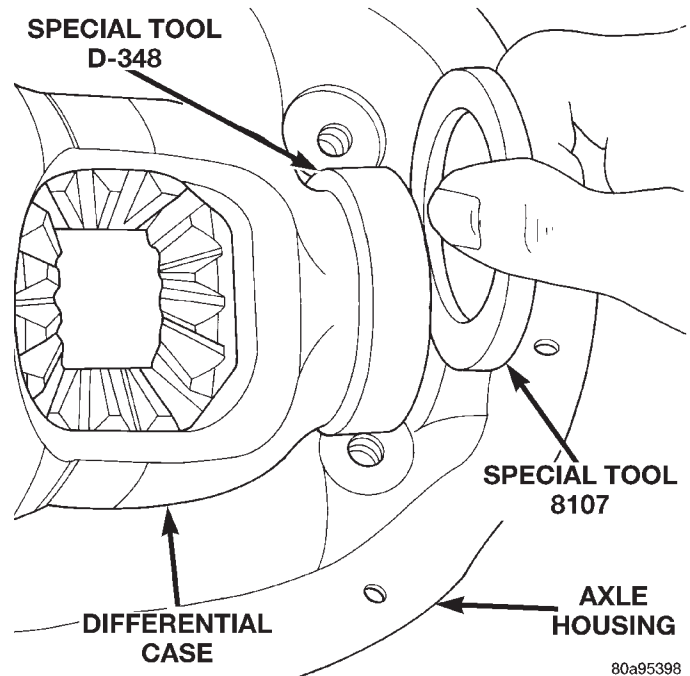
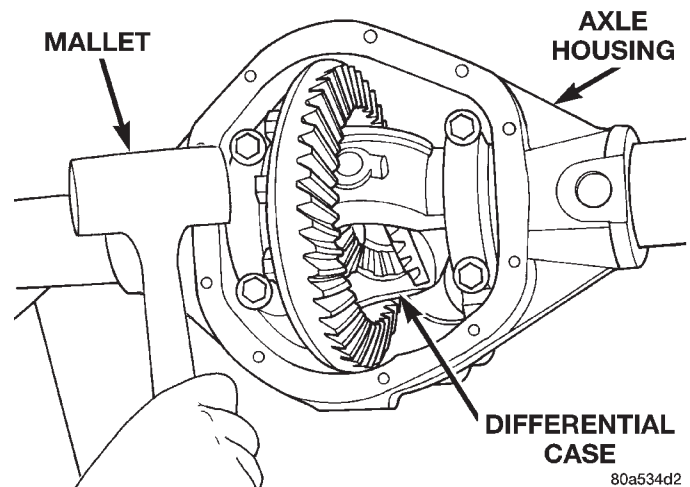
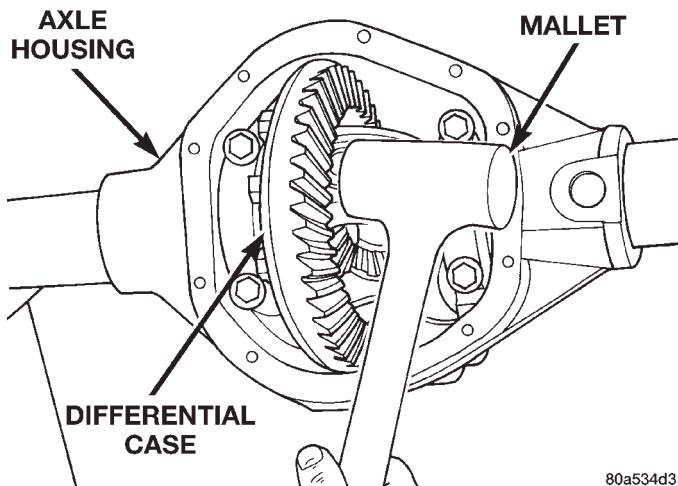

Fig. 83 Insert Starting Point Shims
Fig. 84 Seat Pinion Gear Dummy Side Bearing
Fig. 85 Seat Ring Gear Side Dummy Bearing
- (1) Remove side bearings from differential case.
- (2) Install ring gear, if necessary, on differential case and tighten bolts to specification.
- (3) Install dummy side bearings D-348 on differential case.
- (4) Install differential case in axle housing.
- (5) Insert Dummy Shims 8107 (0.118 in. (3.0 mm)) starting point shims between the dummy bearing and the axle housing (Fig. 83).
- (6) Install the marked bearing caps in their correct positions. Install and snug the bolts.
- (7) Using a dead-blow type mallet, seat the differential dummy bearings to each side of the axle housing (Fig. 84) and (Fig. 85).